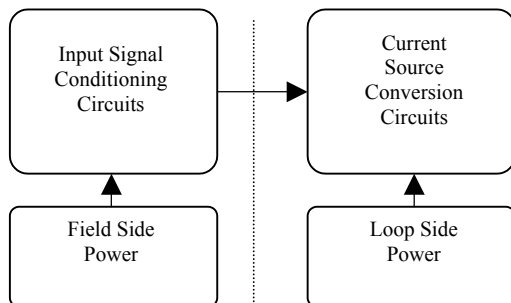

Figure 3
Figure 3 shows the basic internal circuit blocks of a 4-20 mA transmitter. These circuits provide the following functionality;
- The dashed line in Figure 3 illustrates isolation between the field side and the output loop side. Isolation is an extremely important aspect of signal transmission. Signal loops, power supplies, and grounds should always be completely isolated from each other.